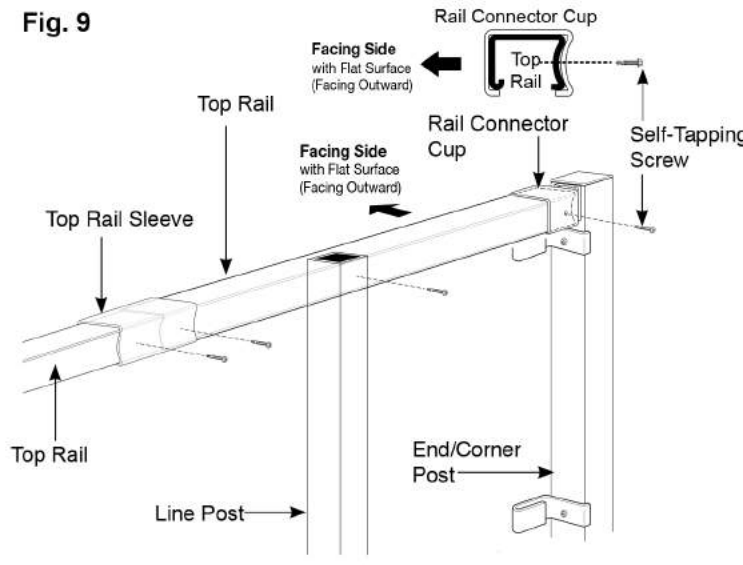

Fig. 10 Proper Length Measurement
- Measure the last section of top rail from the rail sleeve (3" in) to the back of the rail connector cup (Fig. 10).